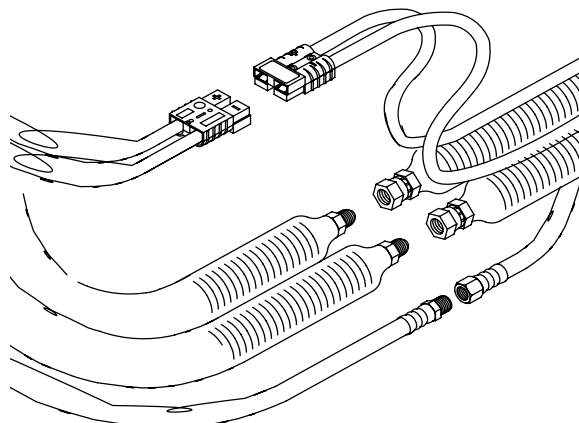

FIG. 9: Hose Connection (step a)
- a. Lay out hose assemblies end-to-end as shown in FIG. 9.